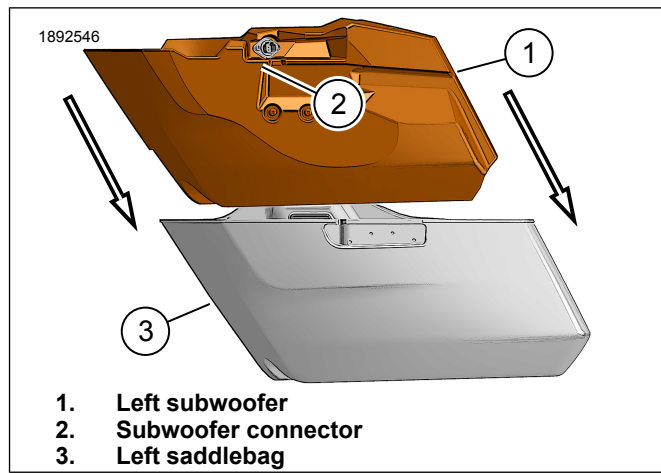

Figure 7. Install Subwoofer
1. See Figure 7. Install subwoofer (1) into saddlebag (3).
- a. Install wire harness subwoofer connector into subwoofer connector (2).